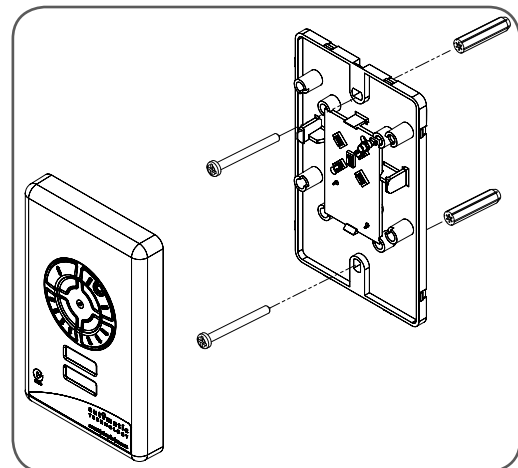

fig 58
- Affix the baseplate in a convenient wall location (**Fig 58**) that is out of reach of children at a height of at least 1.5 metres from the floor and where the door is visible.